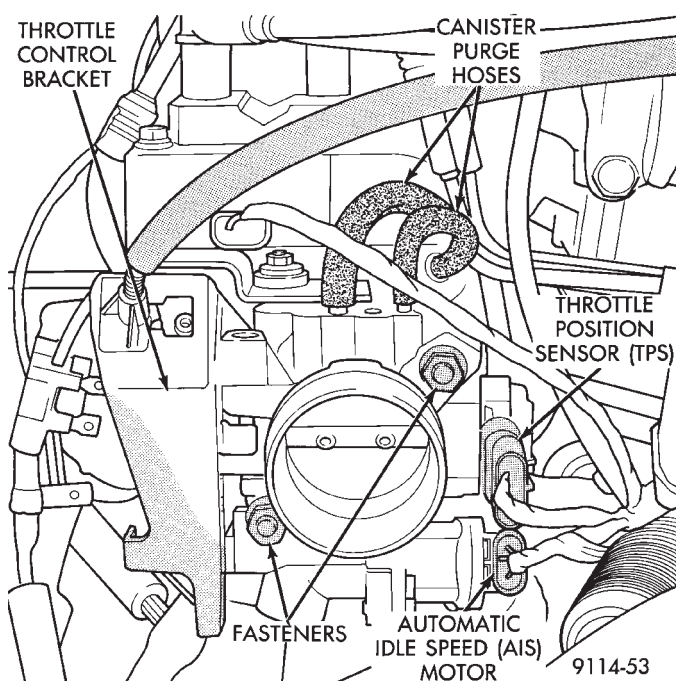

Fig. 14 Throttle Body Electrical and Vacuum Hose Connections
(18) Verify the harness connector is attached to AIS motor. (Fig. 14).
(19) Verify the harness connector is attached to the throttle position sensor. (Fig. 14).
(20) Inspect the hose connections at throttle body (Fig. 14).